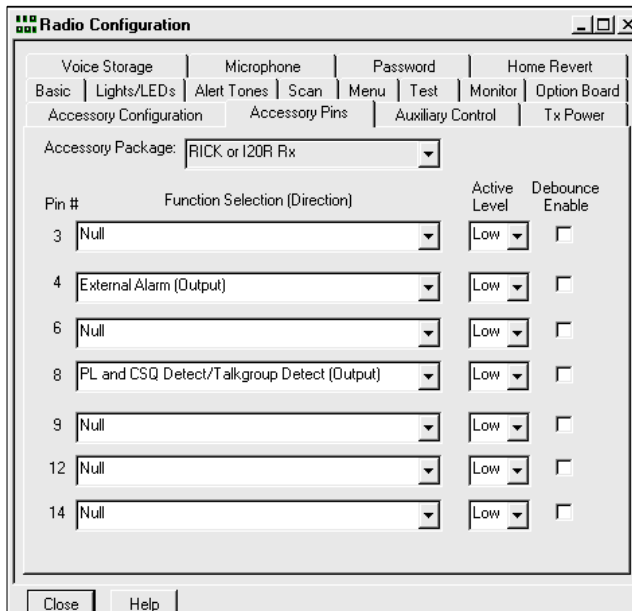

Figure 8-3. Basic (R*I*C*K) Unidirectional Repeater, Accessory Pins, Receive Radio
9. Click the “Accessory Package” dropdown arrow button. Select “RICK or I20R Rx”. Verify that pin 8 is “PL and CSQ Detect/Talkgroup Detect (Output)”, Active Level “Low”. Your screen should appear similar to Figure 8-3.